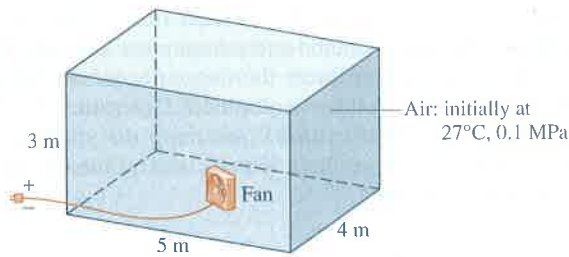

Fig. P3.119
- 3.119** As shown in Fig. P3.119, a fan drawing electricity at a rate of 1.5 kW is located within a rigid enclosure, measuring $3 \text{ m} \times 4 \text{ m} \times 5 \text{ m}$. The enclosure is filled with air, initially at 27°C, 0.1 MPa. The fan operates steadily for 30 minutes. Assuming the ideal gas model, determine for the air (a) the mass, in kg, (b) the final temperature, in °C, and (c) the final pressure, in MPa. There is no heat transfer between the enclosure and the surroundings. Ignore the volume occupied by the fan itself and assume there is no overall change in internal energy for the fan.